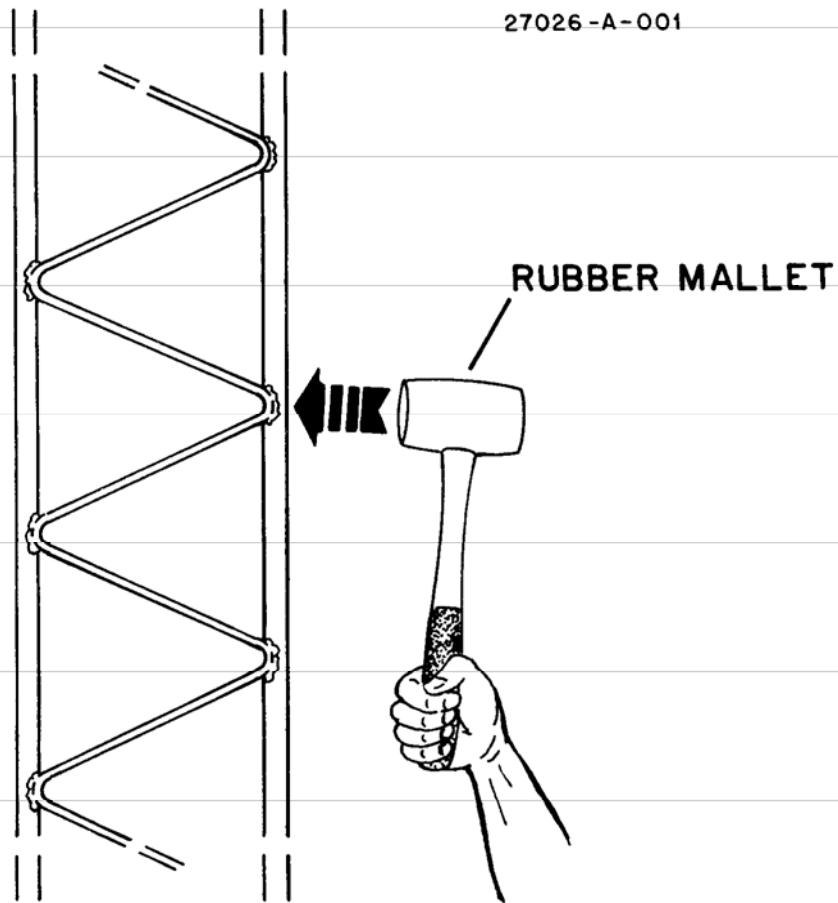

Figure 15
To correct these problems, crank the tower back up until the cable is tight. A soft, rubber faced hammer can be used on the tower legs while lowering the tower to jar the obstruction free. If you use a rubber mallet, tap only on the tower leg where the bracing meets the leg and tap as far up on the bottom section as you can reach. NEVER TAP ON ANY TOWER BRACING! See Figure 15.
- Refer to Figure 15. Loosen the two #10 x 3/4" bolts on each end of the removable brace. Loosen the two #10 locknuts then loosen the two #10 x 3/4" bolts.